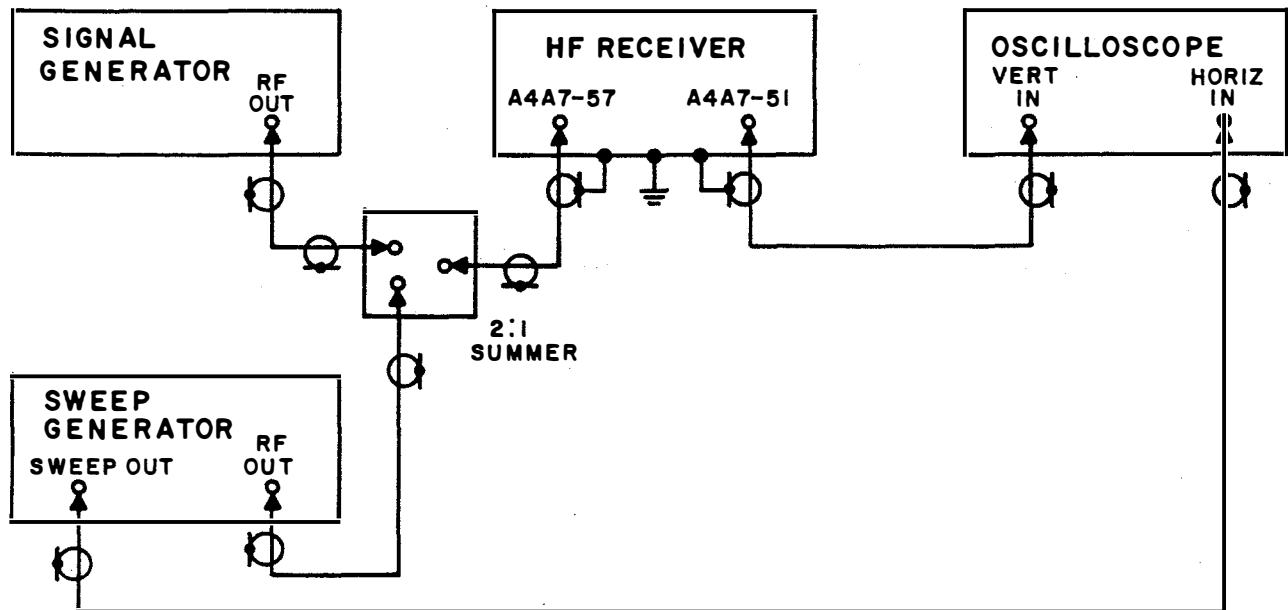

Figure 6-7. FM Discriminator Alignment, Test Setup
| <p>(a) Signal generator</p> <p>(b) Sweep generator</p> <p>(c) Oscilloscope</p> <p>(d) 2:1 Summer</p> <p>(2) Procedures.</p> <p>(a) Deenergize the receiver.</p> <p>(b) Remove cards A4A7, A4A9 and A4A10.</p> <p>(c) Place card A4A9 on an extender card.</p> <p>(d) Connect the test equipment as shown in figure 6-7.</p> <p>(e) Set up the sweep generator as follows:</p> <p style="padding-left: 40px;">1 Power - ON</p> | <p>2 CW/Sweep - SYM</p> <p>3 Trig/Line/Free - Line</p> <p>4 Fast/Slow/Manual - Fast</p> <p>5 Crystal Cal - OFF</p> <p>6 Range - 11</p> <p>7 Sym Sweep Width Vernier -.1/1</p> <p>8 1 kHz Mod - OFF</p> <p>9 Output Level - -10 dBm</p> <p>10 Frequency - 455 kHz</p> <p>(f) Set up the signal generator for a 455 kHz output, unmodulated, at -25 dBm.</p> <p>(g) Set the receiver front panel Detection Mode control to FM. Note the appearance of the yellow indicator when the pushbutton is depressed.</p> <p>(h) Energize the receiver.</p> |